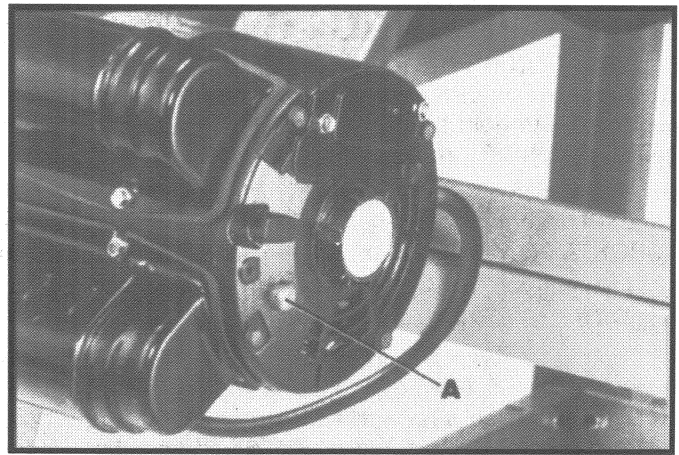

Fig. 11
The drum motor is equipped with a re-settable overload relay. If the motor fails to start because of overloading or because of low voltage, turn both switches to "OFF". Let the motor cool for 3 to 5 minutes, then push the reset button (A) Fig. 11. Start the machine.